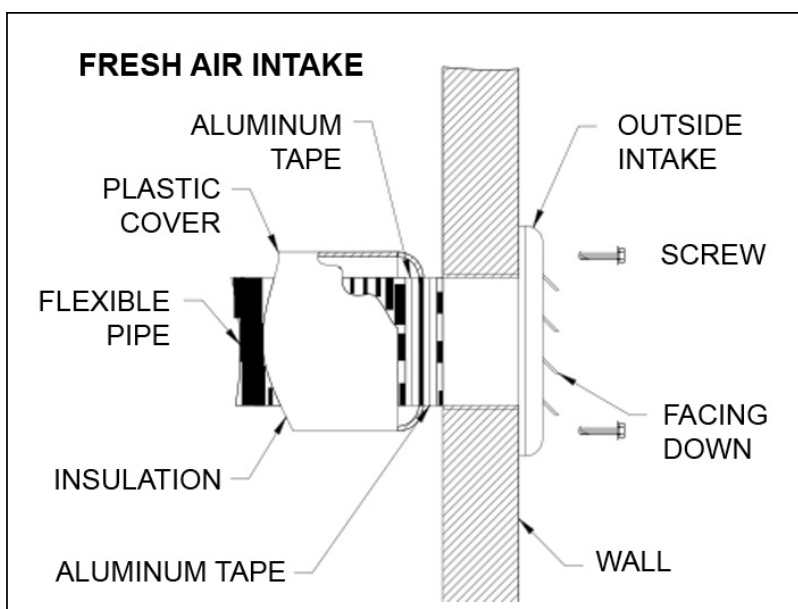
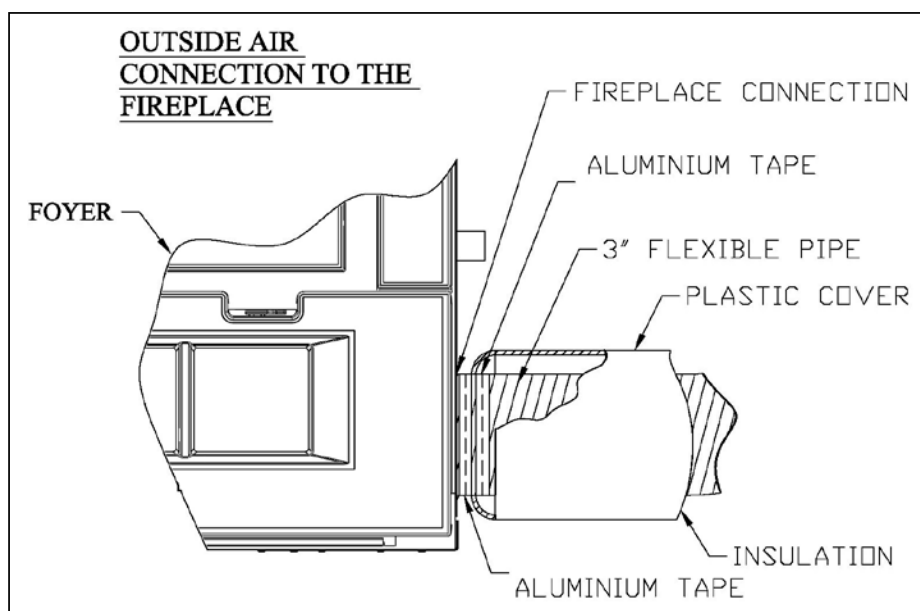

Figure 35
Figure 36
Make a 3 1/4" (83 mm) hole in the outside wall of the house at the chosen location. From outside, place the outside air inlet cap in the hole (open side down) and fasten the register to the wall, with screws as shown (see figure 35). Place the insulated pipe over the register tube and over the fireplace outside air connector (see figure 36). At each end, carefully pull back the insulation and plastic cover, exposing the flexible pipe. Attach the flexible pipe using pipe clamps. For a better seal, you may also use aluminum tape. Wrap the tape around the joint between the flexible pipe and the air inlets. Carefully push the insulation and plastic cover back over the pipe. Fix the plastic in place using aluminum tape.
5. Secure a 3" insulated flexible conduit (not included) to the adapter and the outside termination (not included) with the 2 adjustable straps (not included) figure 35, 36 & 41.